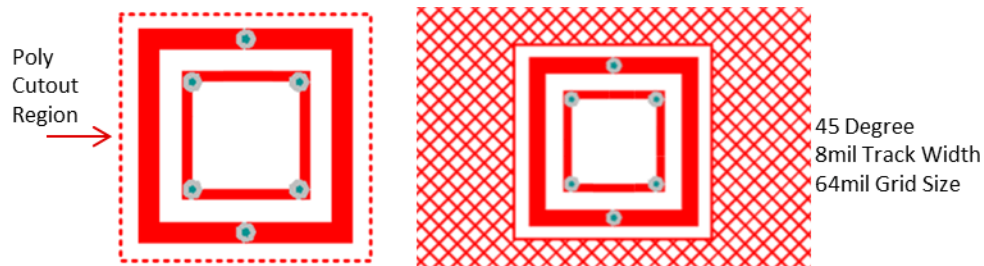

Figure 17. Ground Pour
- When designing a button, slider, or wheel of any size or shape, a flexible method to control the distance between any sensor and the ground pour is to provide a poly cut-out region around the sensor (see Figure 17). The gap from the sensors to the surrounding ground can be 0.5 mm to 2 mm and is typically equal to half of the overlay thickness.